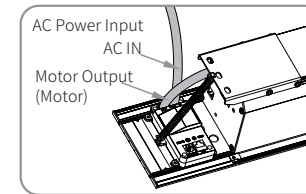

Figure 8
- Connect the screen's power. Plug the motor cable from the left side into the "Motor" port on the left end cover assembly. Connect the included power cord to the "ACIN" port. Ensure secure connections, then plug the power cord into an AC outlet (Figures 8–10).